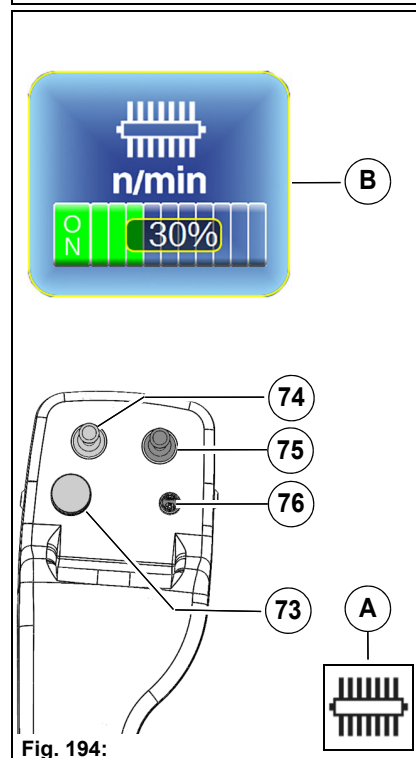

Fig. 194:
1. Switch on the work mode with the Hako button **Fig. 194-76**. The accelerator pedals must be in the neutral position. The front sweeping machine information symbol **Fig. 194-A** appears in the multifunctional display.
2. Use the turn-push knob **Fig. 194-73** in the working menu to switch on the front sweeping machine **Fig. 194-B** and to set the speed.